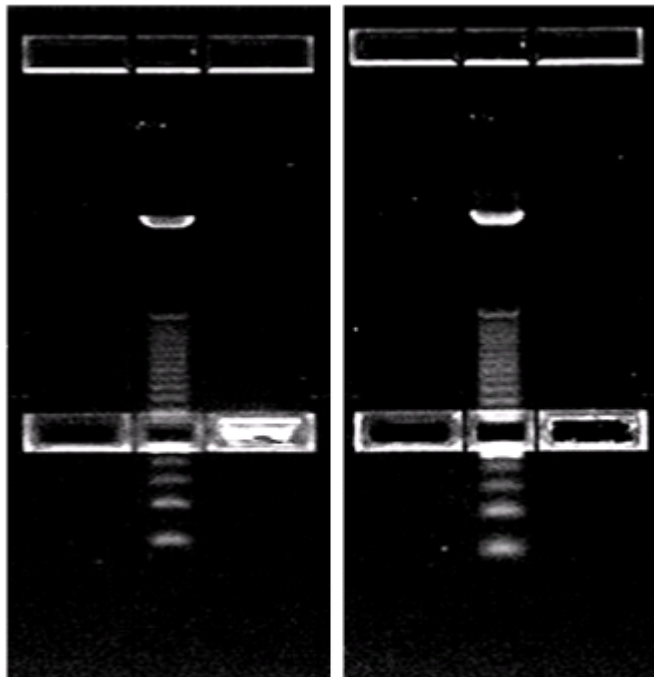

Figure 19 Collection of the of 155-bp library band from the SOLiD™ Library Size Selection gel.
6. Collect the DNA from the collection well using a 20- $\mu$ L pipette fitted with a tip (see Figure 19). Do not perforate the bottom of the agarose collection well. Due to migration of the DNA into the bottom of the well, some residual DNA remains underneath the well.